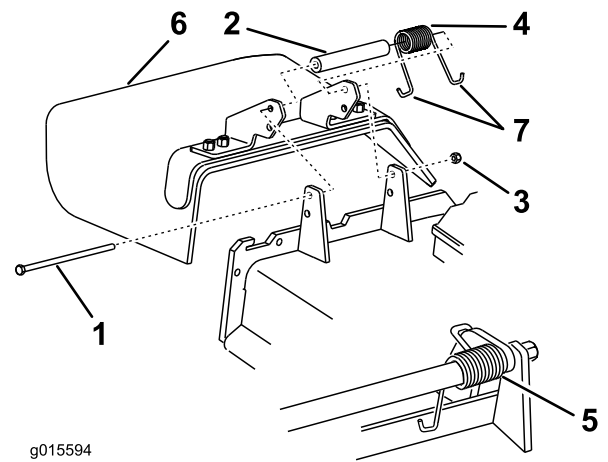

Figure 106
1. Remove the locknut, bolt, spring, and spacer holding the deflector to the pivot brackets (Figure 106). Remove the damaged or worn grass deflector.
Note: Make sure that 1 J-end of the spring is installed behind the deck edge before installing the bolt as shown in Figure 106.
3. Install the bolt and the nut. Place one J-hook end of the spring around the grass deflector (Figure 106).